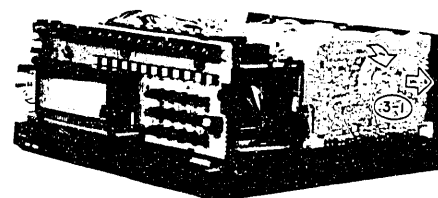

Fig. 26
1. Regulator PC Board (Fig. 26)